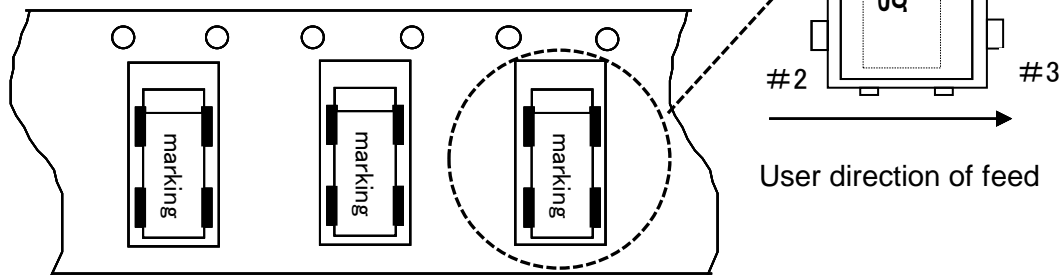

Fig. 1
- (1) Taping shall be placed in tapes in such manner as to assure that marking of the components is visible as per Fig. 1
【 Figure 1 】
[6] Sample of the label display (display department, please refer to 【Figure 1 】【 Figure 2 】)